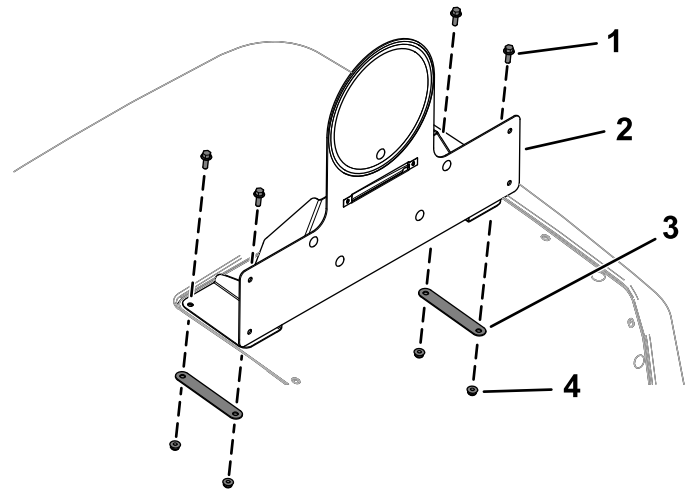

Figure 33
- Secure the assembled speed-plate mount to the hood using 4 flange-head bolts (1/4 x 3/4 inch), 2 back mounts, and 4 locknuts (1/4 inch) as shown in Figure 33.